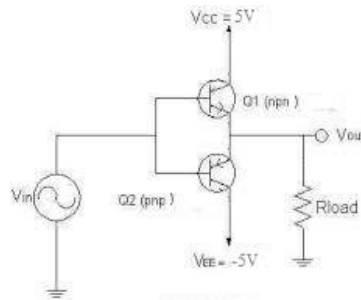

Fig. 6: Class B push-pull Power amplifier circuit to be implemented
For the circuit in Fig 6.
1. Wire the circuit shown in figure 6.